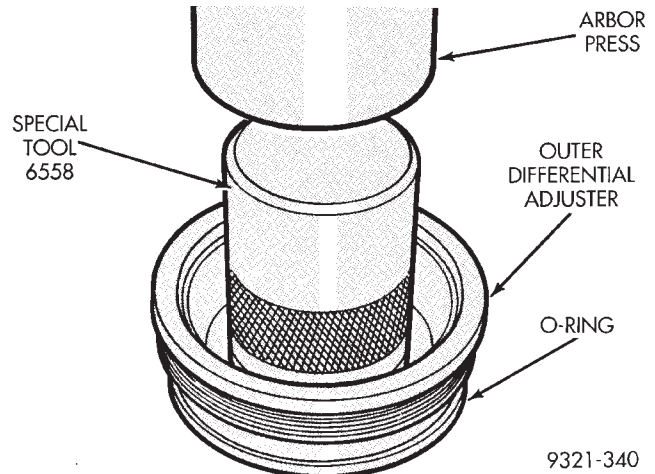

Fig. 65 Seal Removal and Installation
(5) Using special tool 6503 loosen outer adjuster, then retighten to the index mark using a torque wrench. Record the amount of torque required to return the index marks to their original location. Remove the adjuster.
(6) Use special tool 6558 to remove old seal and install new seal (Fig. 65).